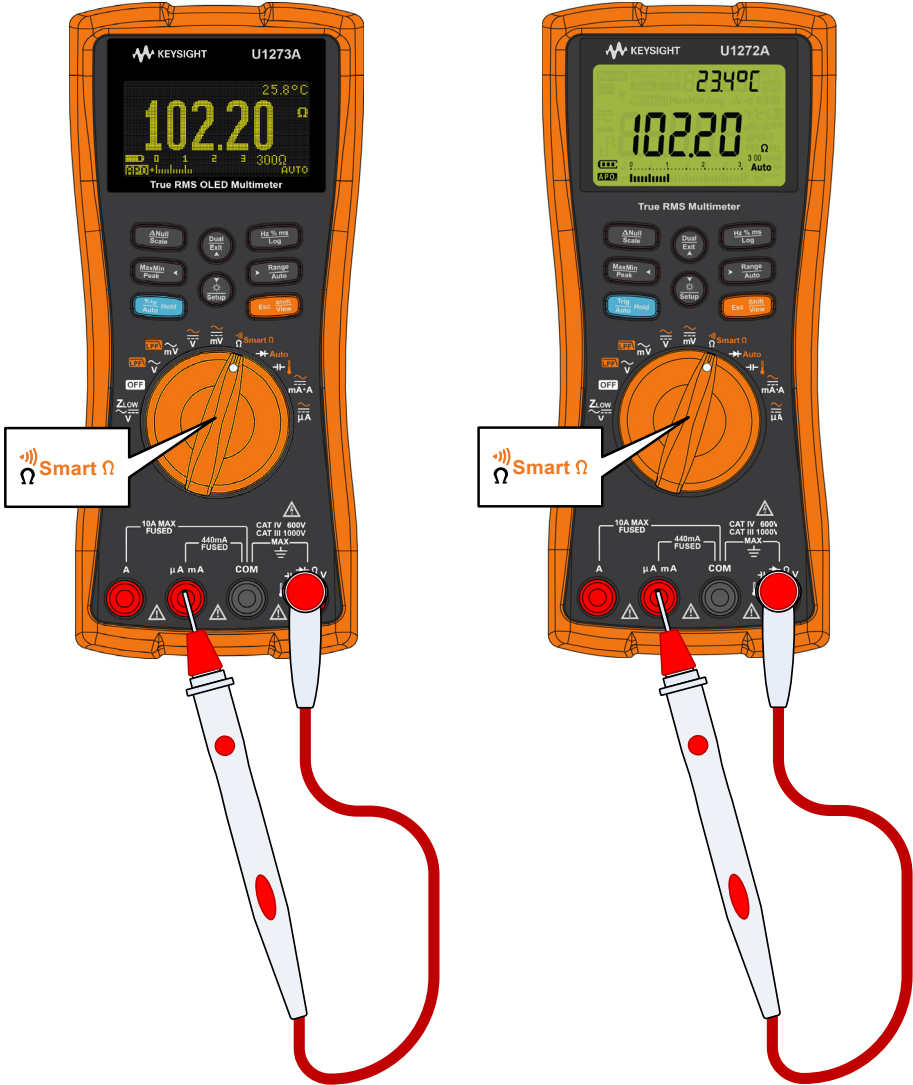

Figure 2-1 Testing Fuse 1
- 2 To test Fuse 1, place the tip of the test probe on the top half of the **$\mu\text{A mA}$** input terminal. Ensure that the probe tip touches the metal inside the **$\mu\text{A mA}$** input terminal, as shown in Figure 2-1.